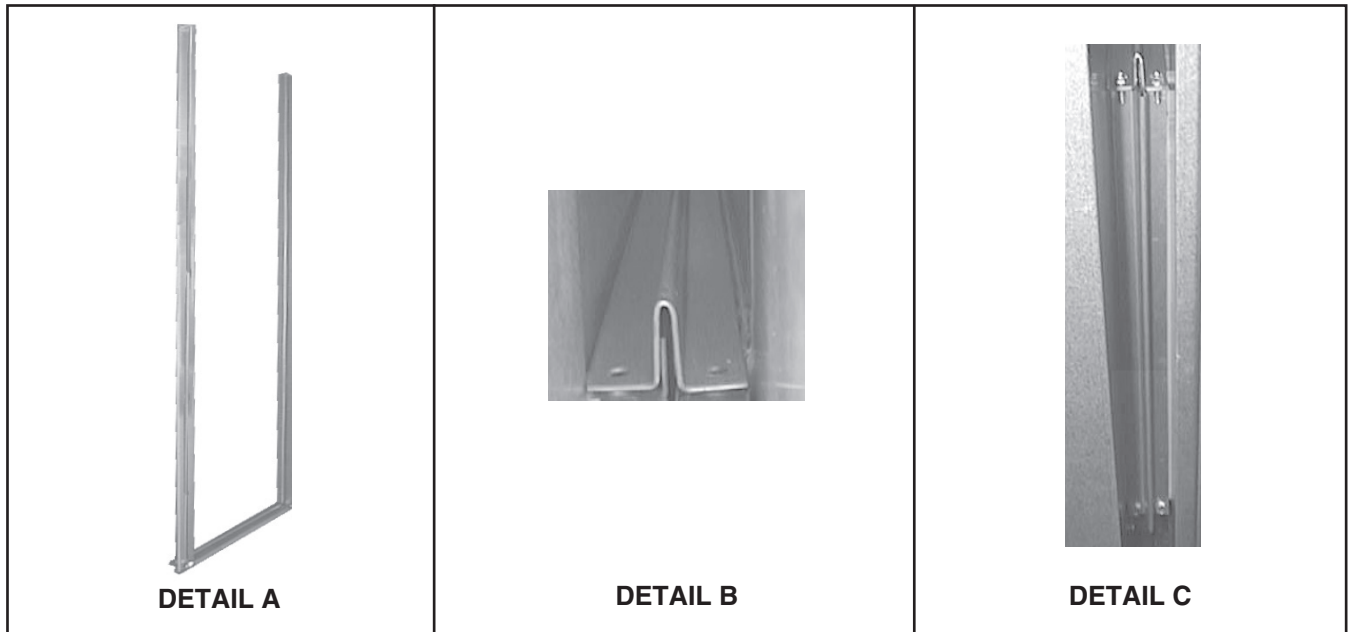

Figure 3. Duct Connector Assembly
- a. Connect one side duct connector to both top and bottom duct connectors using #14 × 3/4 sheet metal screws (see Figure 3, DETAIL A).
- b. Install partially-assembled connectors with screw holes in top piece at open side (see Figure 3, DETAIL B) into space between furnace and cooling coil cabinet. Tap with hammer—first on side, then on top, and lastly on bottom—until duct connector assembly is seated over both duct flanges.
- c. Install other side duct connector and use driver extension to install #14 × 3/4 sheet metal screws that secure side connector to top and bottom connectors (see Figure 3, DETAIL C). Ensure that top screws are vertical and bottom screws are horizontal and that U-shaped rectangular frame joins duct flanges on all four sides.